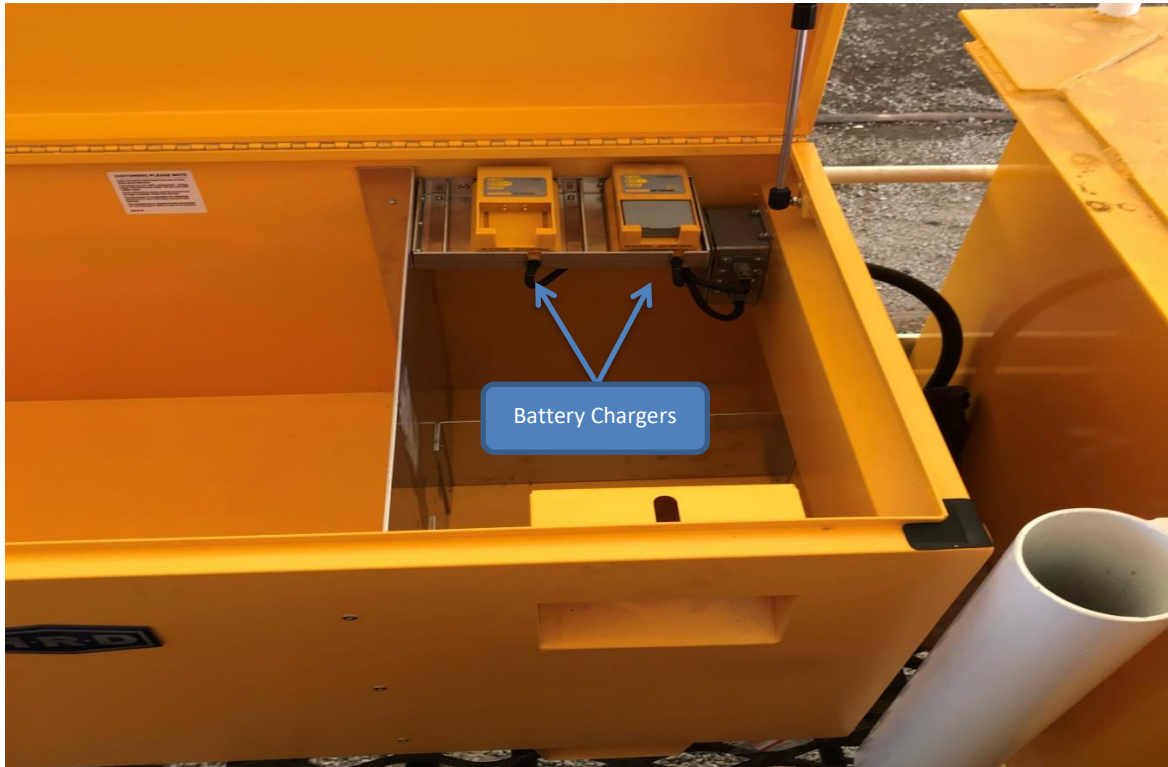

Figure 3.3
2. The location for the remote battery chargers is located in the tool box. Please see figure 3.3